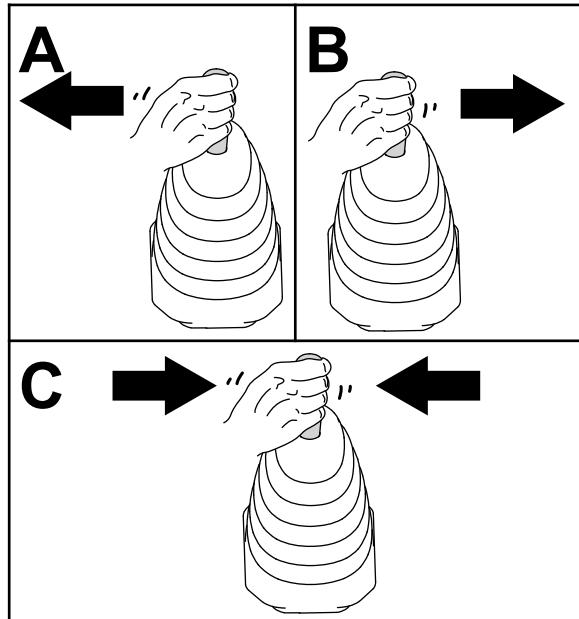

**Figure 48**
4. Use the loader joystick to raise the loader arms out of the loader-frame mounts (Figure 48).